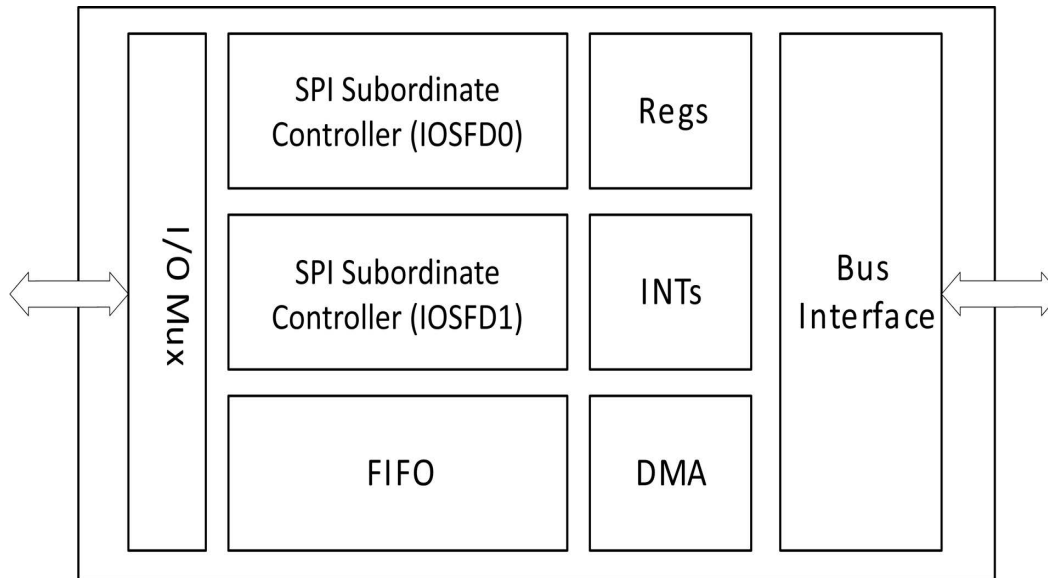

Figure 32. Full Duplex IOS SPI Subordinate Controller Pair (IOSFD0 / IOSFD1)
The Apollo330 Plus SoC includes two instances of the Full Duplex SPI Subordinate and both instances are designed to work in tandem to enable full duplex (FD) operation. Features of the controller pair are shown in Figure 32 and listed below.